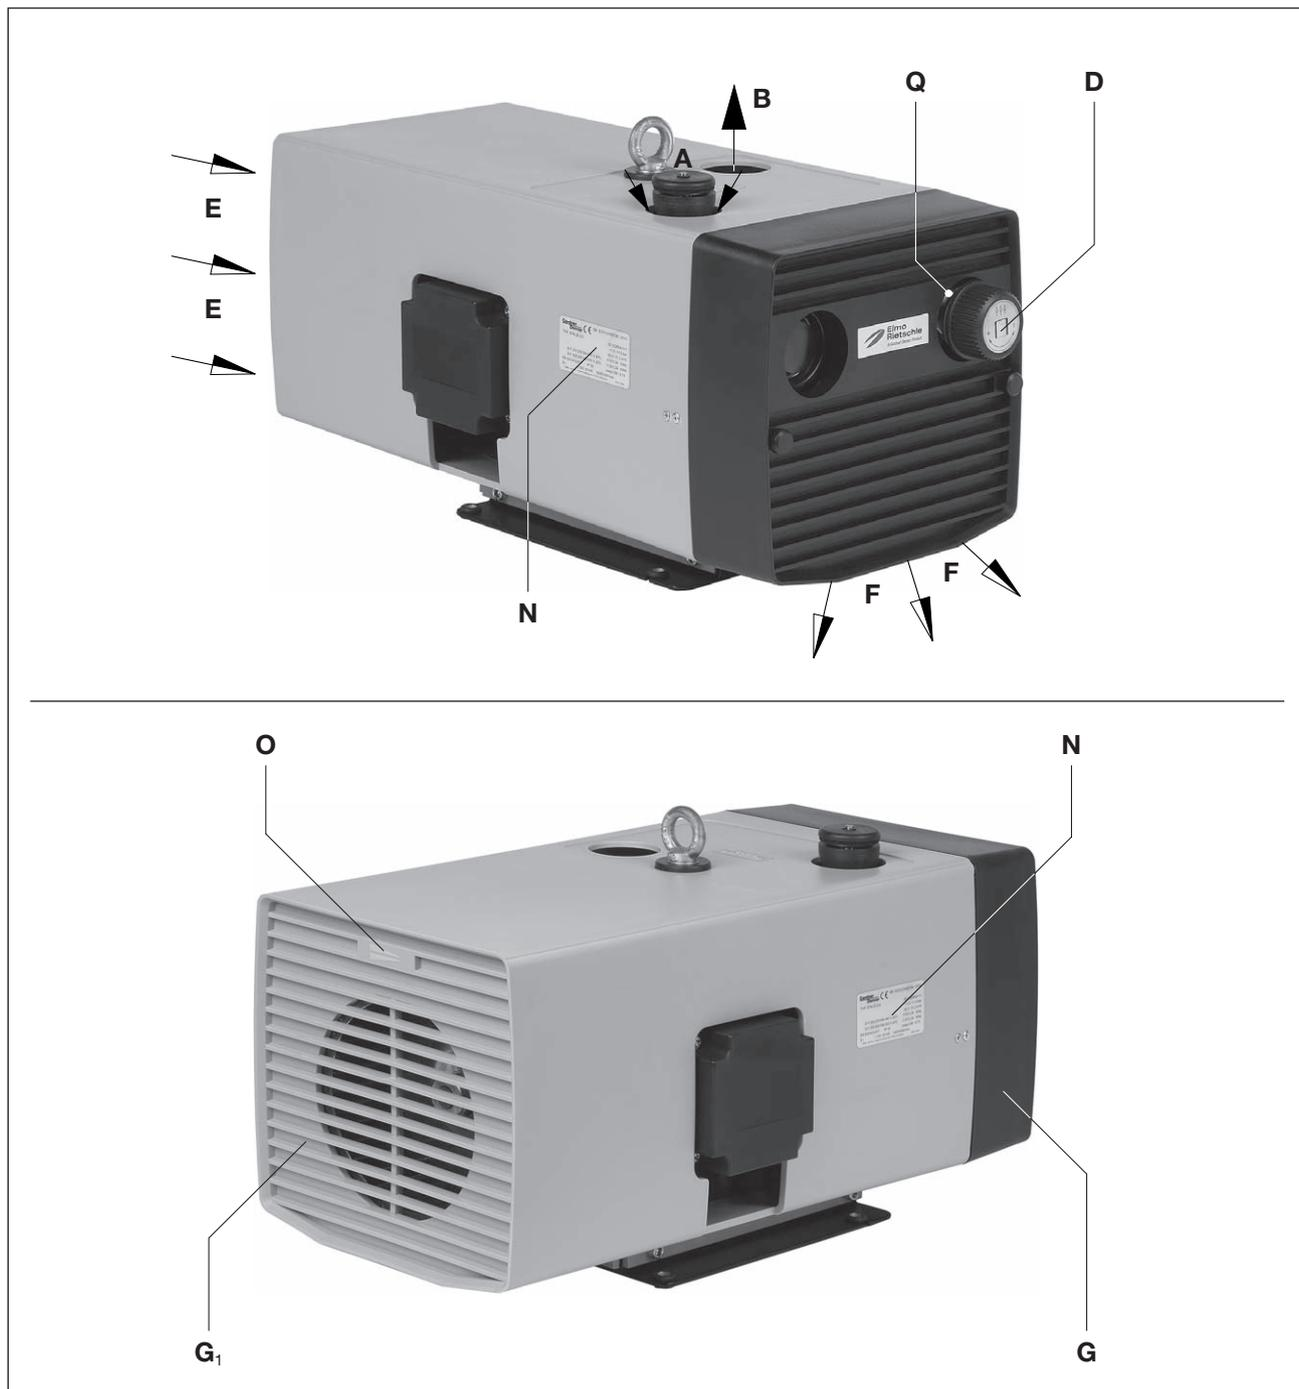

Fig. 2 V-DTN compressor
The compressed air in sizes 16, 26 and 41 is cooled by a cooling segment with a greater motor output. The pressure regulating valve (Fig. 2/D) is used to set the pressure to the required values with an upper limit.
These dry running rotary vane compressors, V-DTN 16 to V-DTN 41, are suitable for creating excess pressure between 0 and the maximum limit (in bars) given on the data plate (Fig. 2/N). Constant operation is permissible.
To remove the outlet grid (Fig. 2/G) and the inlet grating (Fig. 2/G₁) at least 30 cm of space must be available for maintenance work. You must also ensure that the cooling air inlets (Fig. 2/E) must be at least 10 cm away from the nearest wall (outgoing cooling air must not be sucked in again).
- a) Pressure connection at (Fig. 2/B).
The required pressure ranges can be set with the pressure regulating valve (Fig. 2/D) as shown on the symbol plate affixed to the rotary knob.
- a) The electrical motor data can be found on the data plate (Fig. 2/N) or the motor data plate. The motors comply with DIN EN 60034 and are in protection class IP 55 and insulation class F. The appropriate connection diagram is located in the motor's terminal box (not for the plug connection version). The motor data must be compared with the data of the existing mains network (current type, voltage, network frequency, permitted current value).
▷ The drive shaft direction of rotation is shown by the rotation direction arrow (Fig. 2/O).